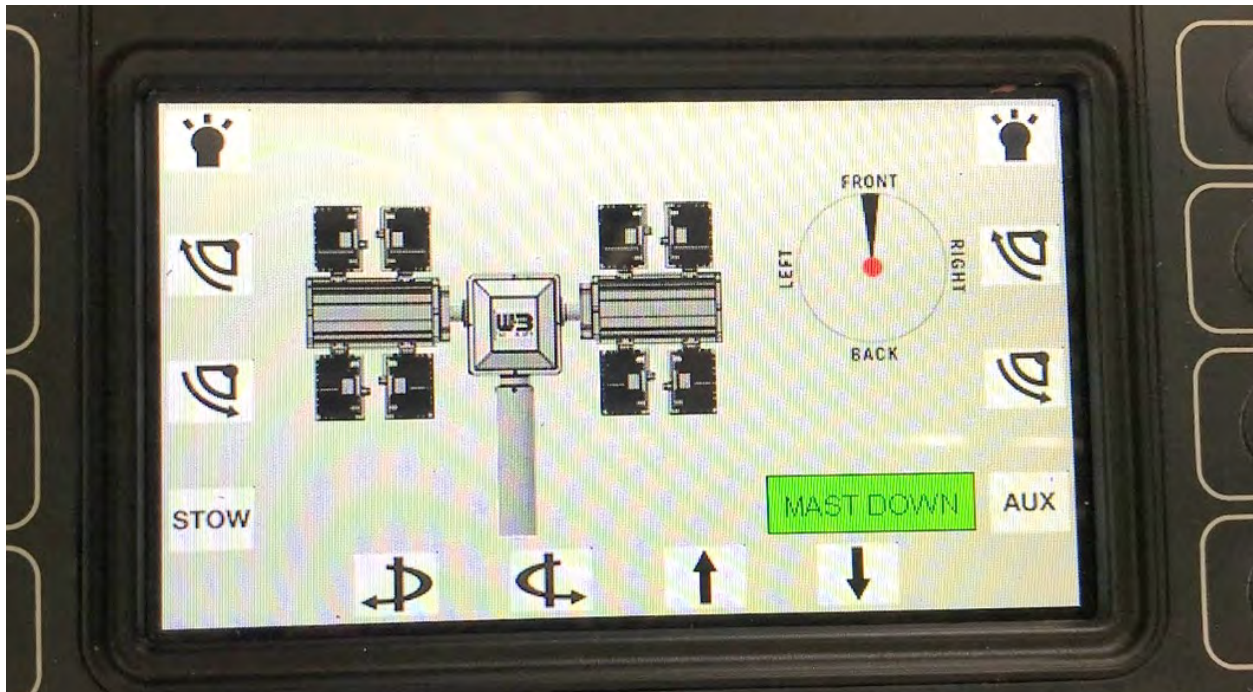

Figure 7-11 Mast Down Limit Switch Indicator
5. Lower the Mast Down Limit Switch to ensure the green bar that says “MAST DOWN” is not visible. Slowly slide the Band Clamp that holds the Mast Down Limit Switch upwards until it senses the magnet. This will be indicated by the appearance of a green bar that says “MAST DOWN” on the display (see Figure 7-11).